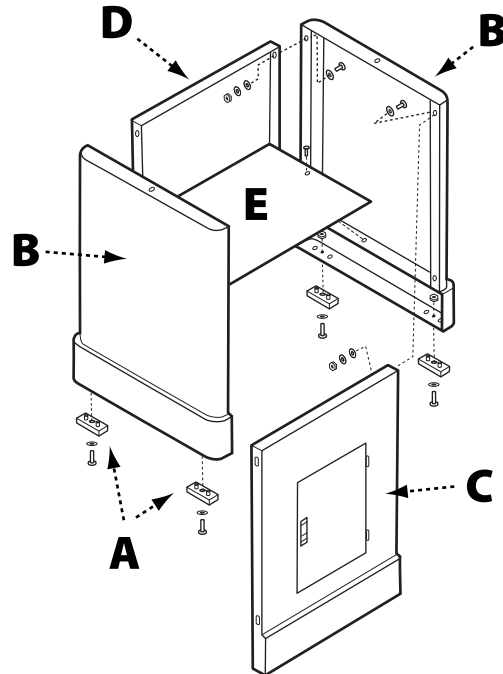

FIGURE 2
1. Referring to Figure 2, attach the four rubber pads (A) to the bottoms of the side panels (B) with four each 5/16 inch x 5/8 inch screws, 5/16 inch flat washers and 5/16 inch hex nuts.
2. Use four 5/16 inch x 5/8 inch hex cap screws, eight 5/16 inch flat washers, four 5/16 inch lock washers, and four 5/16 inch hex nuts to attach the side panels (B) to the front panel (C). Hand tighten only.
3. Attach the rear cabinet panel (D) to the side panels using four 5/16 inch x 5/8 inch hex cap screws, eight 5/16 inch flat washers, four 5/16 inch lock washers, and four 5/16 inch hex nuts.
5. Install the cabinet shelf (E) to the inside of the cabinet using two M5x10 pan head screws, two M5 flat washers and two M5 lock washers.